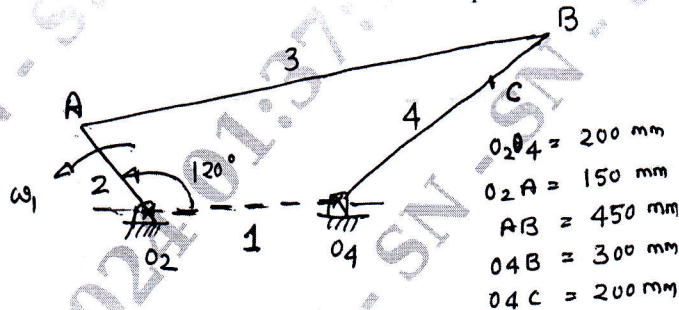

Fig.Q.3
- 3 For a four bar mechanism shown in Fig.Q.3 determine the acceleration of C and angular acceleration of link 3 when crank 2 rotates at 20 radians per second. (20 Marks)